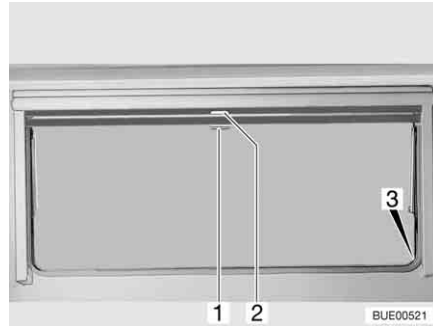

Fig. 52 Hinged window
- Pull blind at the handle (Fig. 52,2) downwards. If the blind is to be completely closed, it is suspended into the locking devices (Fig. 52,3) situated on both sides of the window frame.
- If the blind is completely closed: Press handle (Fig. 52,2) downwards and, at the same time, tilt it slightly inward. The blind can be taken out of the locking devices situated on both sides of the window frame.
- If the blind is in an intermediate position: Pull the handle (Fig. 52,2) slightly downwards until the locking device releases.
- Pull insect screen at the handle (Fig. 52,1) down and hang it into the locking devices (Fig. 52,3) situated on both sides of the window frame.
- Press handle (Fig. 52,1) downwards and, at the same time, tilt it slightly inward. The insect screen can be taken out of the locking devices situated on both sides of the window frame.